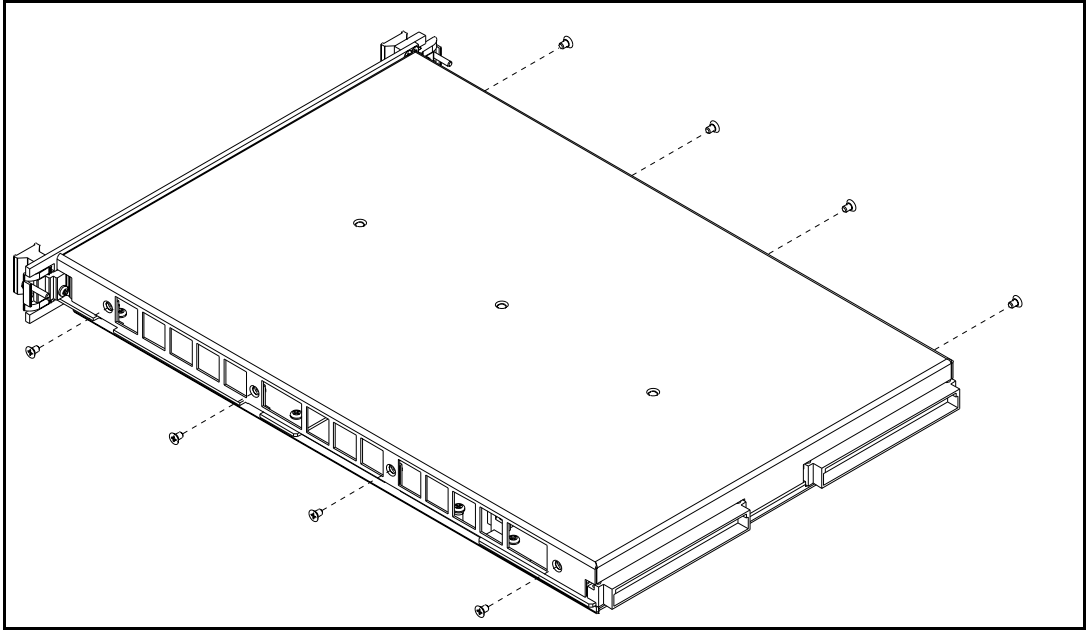

Figure 8. Re-installing the Top cover
6. Using the eight flathead screws shown in Figure 8, secure the top cover to the VXI-SC-1000 carrier module.